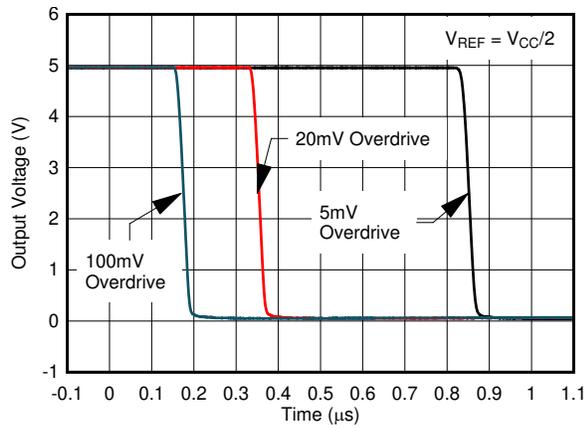

图 6-31. Response Time for Various Overdrives, High-to-Low Transition
- R_{CE} can be determined by taking the slope of 图 6-31 in the linear region at the desired temperature, or by dividing the V_{OL} by I_{OUT}